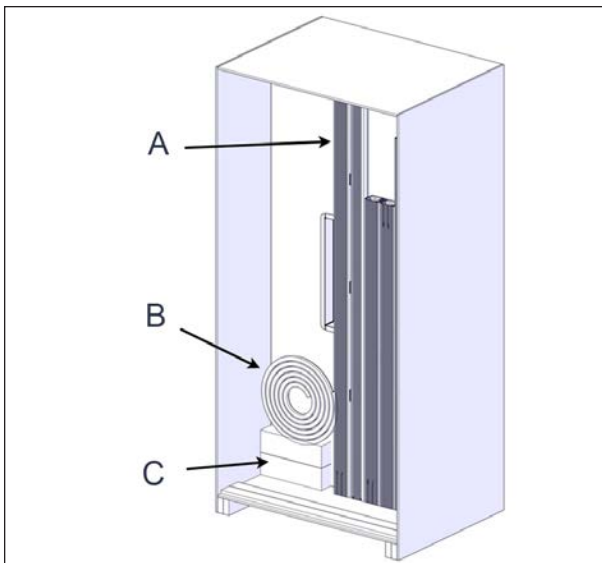

FIGURE 24: OTHER PART REMOVAL
14. Remove the seal and the foam spacers from the crate and keep them in a safe location, see Figure 24.
15. Remove the C-channels and the I-beams from the crate and keep them in a safe location, see Figure 24.